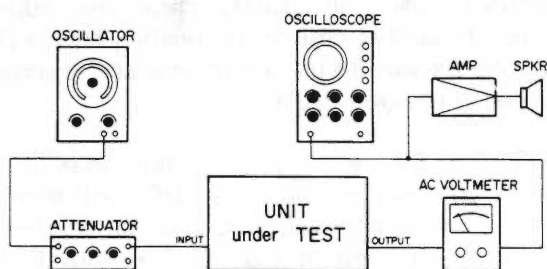

Fig. 2-13. Input Level Calibration
1. Connect the test equipment as shown in Fig. 2-13.
1. Connect an AF oscillator, oscilloscope, AF level meter (adjusted to 1 V range) and a 50k ohm load to the tape deck as shown in Fig. 2-13.
1. Connect the AF oscillator, oscilloscope, AF level meter, and a 50k ohm load to the tape deck as shown in Fig. 2-13.
1. Connect the test equipment to the tape deck as shown in Fig. 2-13 and load a blank test tape onto the tape deck.
- Connect test equipment as shown in Fig. 2-13.
- \* Check erasure, refer to item 2-11-13.